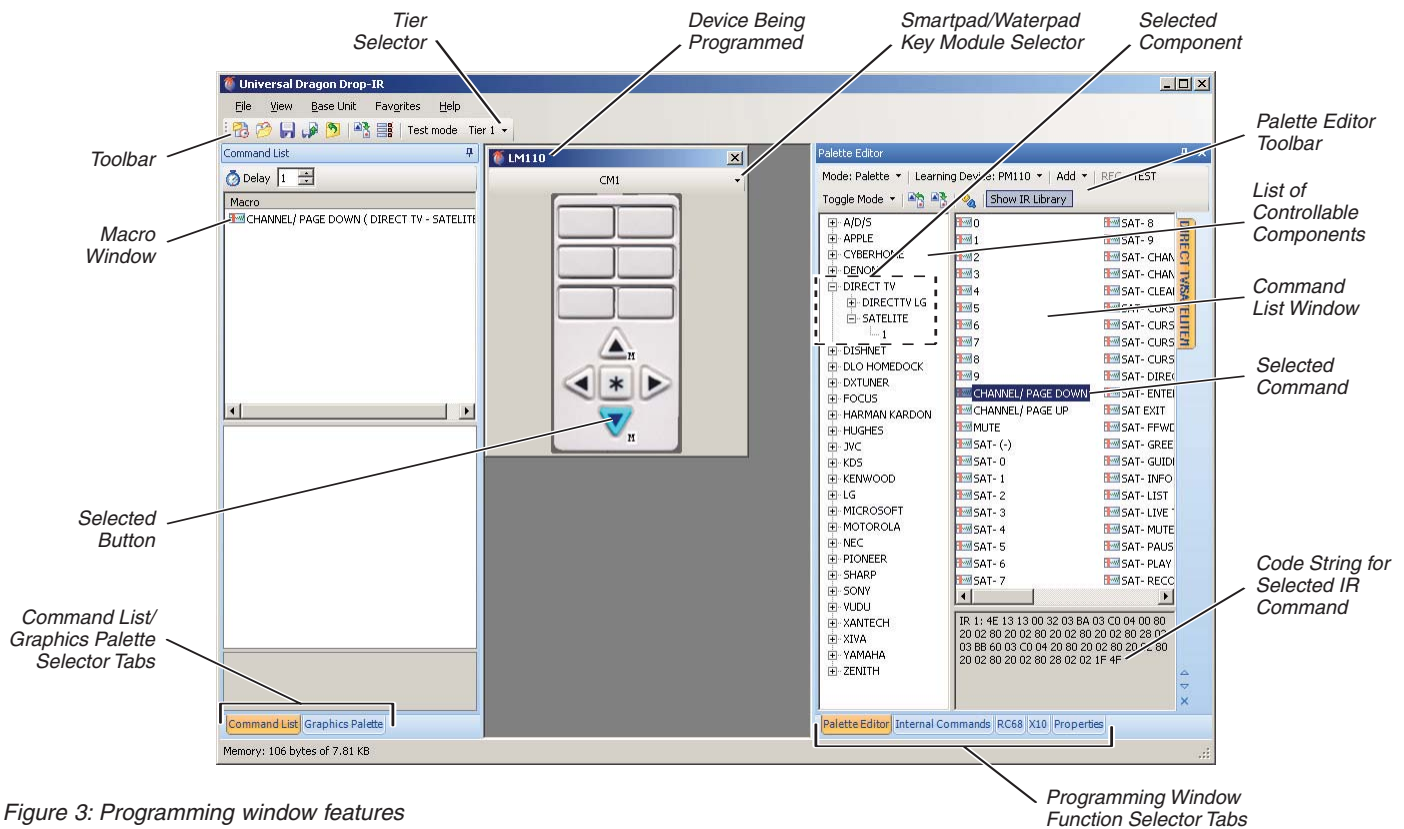

Figure 3: Programming window features
2. Select the device you want to program from the drop-down list. The device will appear in the middle of the programming window (see *Figure 3*, on page 3).
PROGRAMMING WINDOW FEATURES (see Figure 3)
1. Select the component to be controlled from the list of controllable components in the Palette Editor (see Figure 3, on page 3).
2. Select the device's button that you want to program, and then click on the desired command. The command will be applied to the button, and will appear in the Macro Window. (See Figure 3, on page 3)